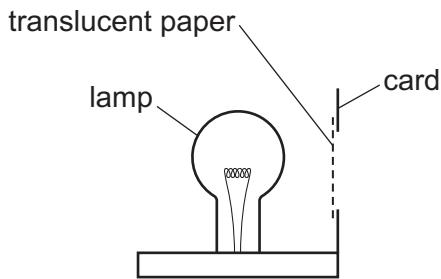
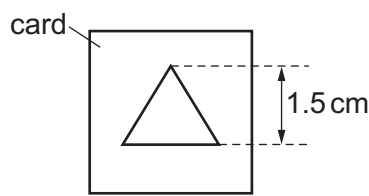

Fig. 3.1
Fig. 3.2
- (ii) Illuminated object with a triangular hole of height 1.5 cm (see Fig. 3.1 and Fig. 3.2). The hole is to be covered with thin translucent paper (e.g. tracing paper). See note 2.